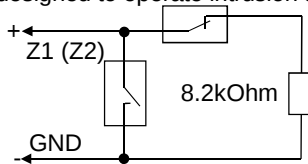

Figure 5. Connecting NC/NO Intrusion Detectors, Enable Reading and Open Access Circuits
4.2.1 Connect normally closed and normally open intrusion detectors or Enable Reading circuits and Open Access circuits to the terminals Z1 (Z2) and GND, observing polarity (see Figure 5). An alarm loop of the controller is designed to operate intrusion detectors with dry contact outputs.